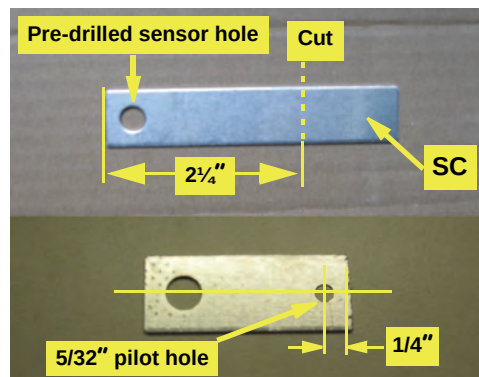

Figure 1c: Cut and drilled sensor bracket
- c. Cut the aluminum sensor bracket **SC** 2¼" from the end with the pre-drilled sensor mounting hole (Figure 1c - top), then drill a 5/32" pilot hole on the centerline of the bracket. Drill the hole so that its center is 1/4" from the cut end (Figure 1c - bottom).